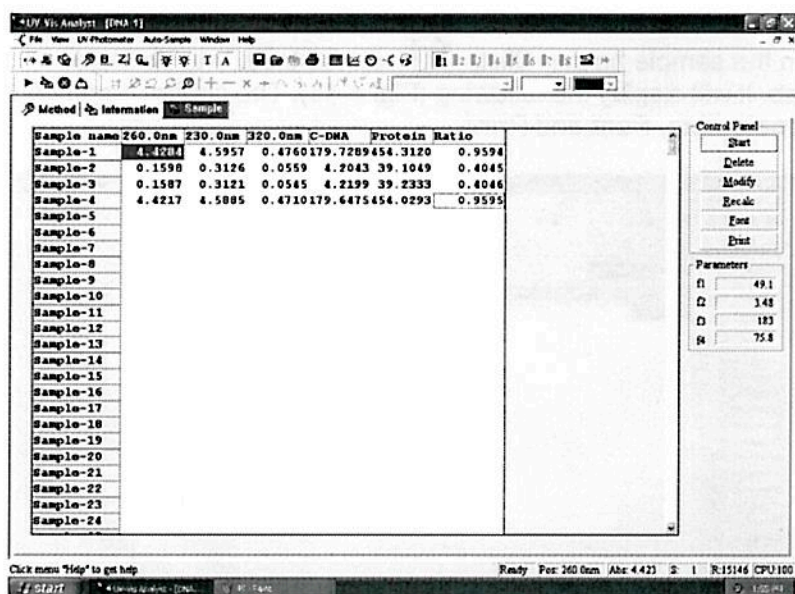

Fig. 4-47
7. Repeat steps 5-6 to test all samples (Fig. 4-47).